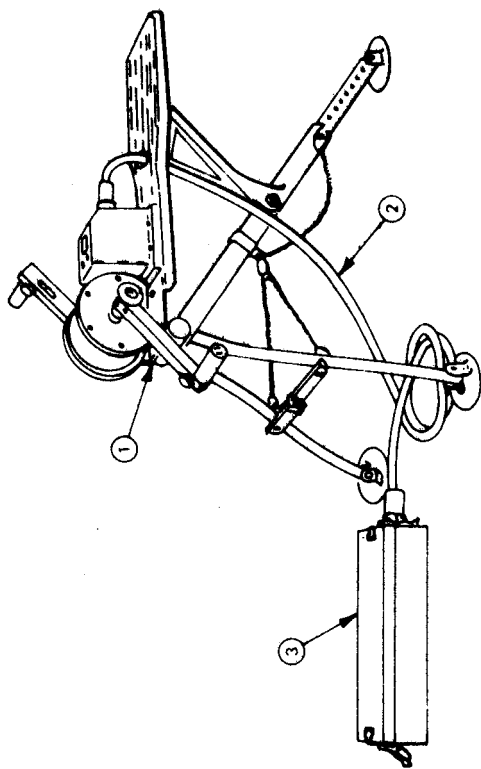

Figure 4-5. Battery Charing with Handcrank Generator G-76/G.
(1) Operate G-76/G in accordance with instructions in TM 11-6115-470-10.
(2) Use previously described operating instructions for RT unit, for the desired configuration.
d. Battery Charging Instructions. The G-76/G Handcrank Generator can be used to charge the BB-542/U Battery. Figure 4-5 shows this setup. This method of charging is only to be used when standard battery charging procedures cannot be followed.